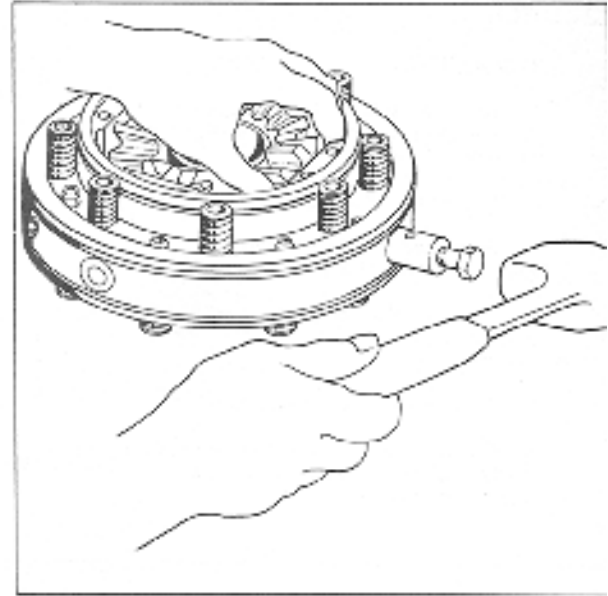

Fig. 23. Installation of Bevel Pinion Shaft Using Protective Capscrew (1/4-20 NF).
3. Installation of pinion shafts: (see fig. 23).